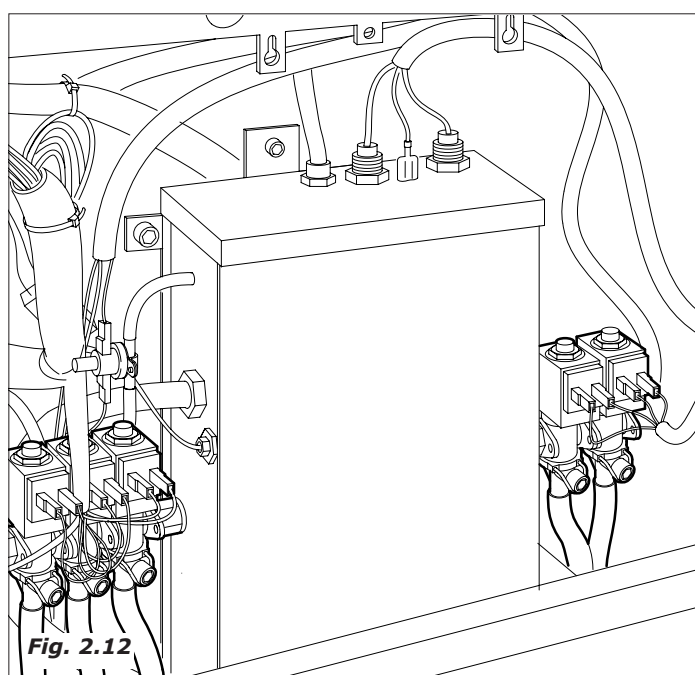
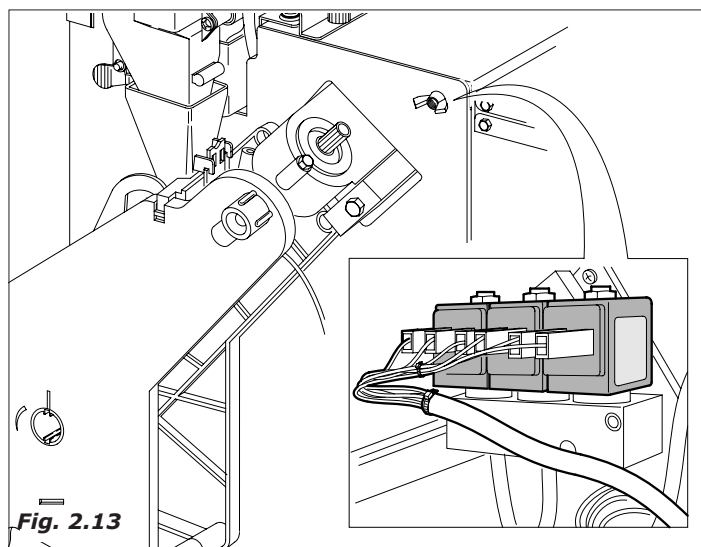

Fig. 2.12
Fig. 2.13
- The electro valve fixed on the soup boiler (Fig.2.12) or on the coffee boiler (Fig.2.13). it is activated to introduce into the mixer the programmed water quantity, according to the models: Single boiler, Double boiler or only Istant.